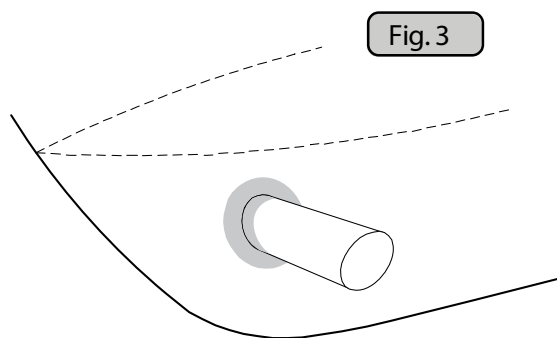

Fig. 3
2. Making a deflector/ spoiler in front and underneath the tunnel can also reduce damage to the thruster and drag. The deflector/ spoiler will push the water flow out from the hull so water can pass by the back face of the tunnel. The shape and size of this deflector/ spoiler will depend on the hull shape. The easiest way of making the deflector/ spoiler is to retain a part of the lower forward area of the tunnel while installing the tube. Use this area as support to mould a soft curve/spoiler shape from the hull. (**Fig. 3**).
2. A rounded tunnel end makes the thruster draw water from along the hull-side, creating a vacuum that will suck the boat sideways and thereby give additional thrust **(Fig. 3&4)**.
3. Grind off the gel coat and polyester so that you are in the "real fibreglass" area 12cm around the hole on both inside and outside the hull to cast the tunnel to the hull (**Fig. 3**).